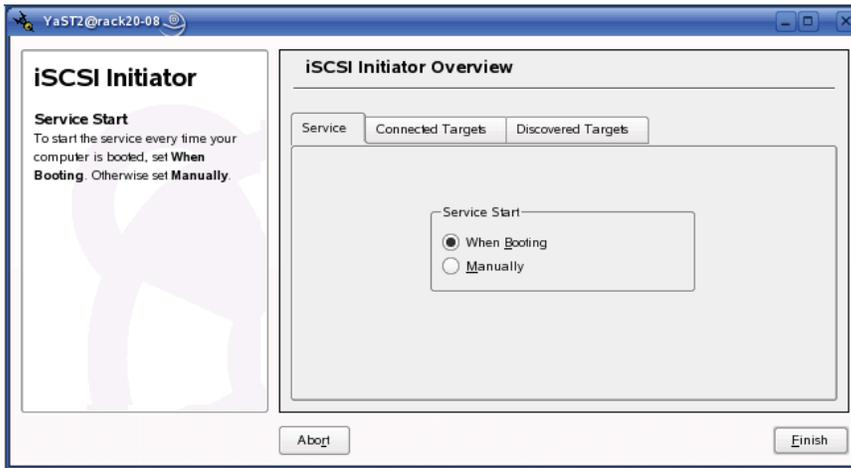

Figure 33 Configure initiator and targets
2. To configure the Initiator and Targets, start the iSCSI Initiator applet by finding it in the YaST Control Center under **Network Services**, and then set the service to start at boot time (Figure 33).